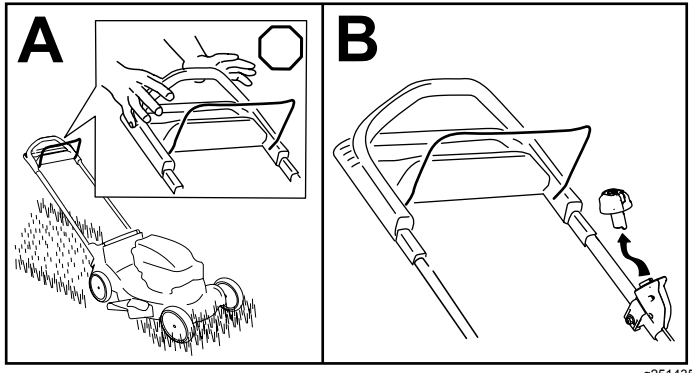

Figure 16
1. Release the blade-control bar (A of Figure 16).
2. Remove the electric-start button from the electric starter (B of Figure 16).